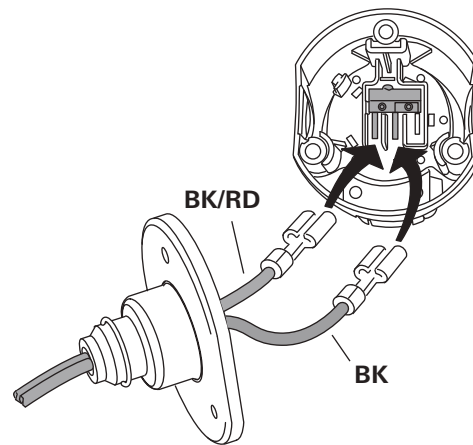

Fig. 51
- ▶ Connect the 2-wire cable with the flat connectors to the micro switch (Fig. 51).